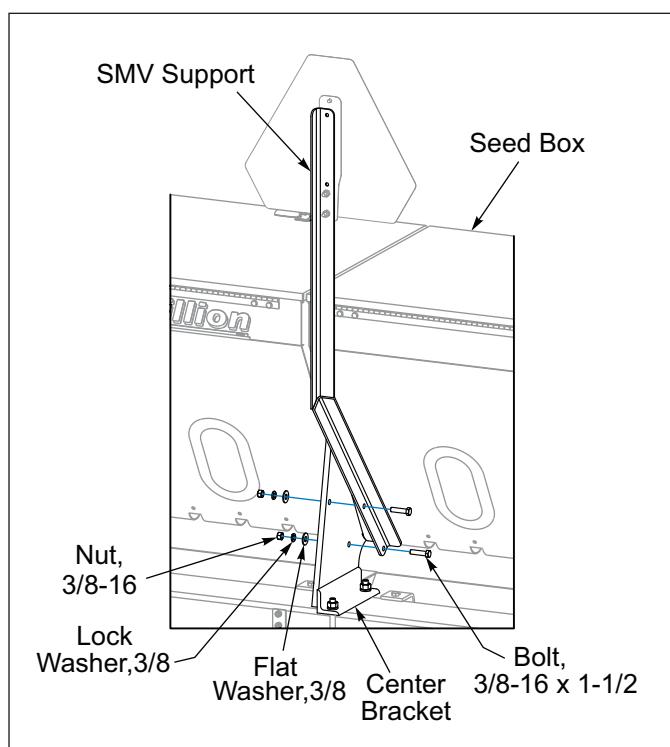

Figure 2-1: SMV Mount
4. 8FT and 10FT Seeders, install SMV Support to Seed Box Center Bracket with 3/8-16 x 1-1/2 Bolts and Locknuts. **See Figure 2-1.**